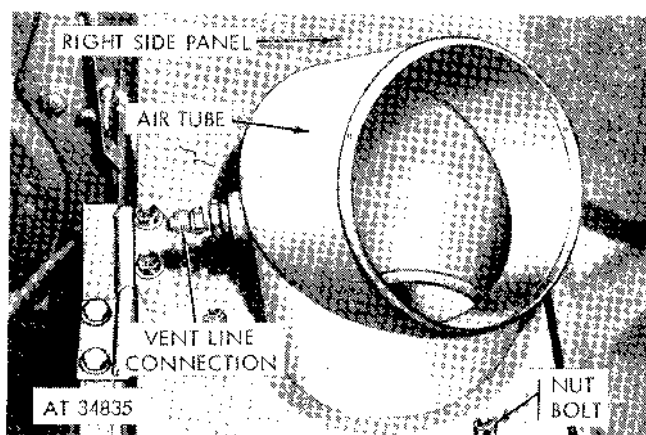

Figure 2-78. Removing air tube.
(4) Disconnect the ventilation line from the air tube, and remove the three nuts and bolts securing the air tube to the right side panel. Remove the air tube (fig. 2-78).
(1) Use the three bolts and nuts to secure the air tube to the right side panel (fig. 2-78). Connect the ventilation line to the tube.